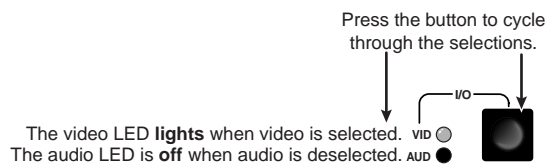

Figure 3-9 — Select video only
1. **Audio/video switchers only** — Select video only for the tie (figure 3-9).